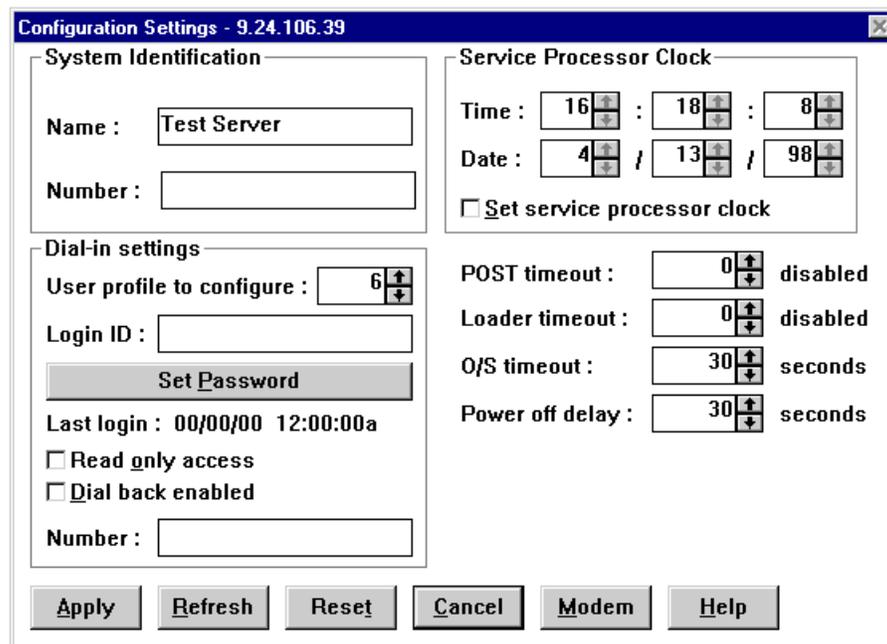

Figure 123. Configuration Settings
3. Double click on **Configuration Settings**. Figure 123 appears.